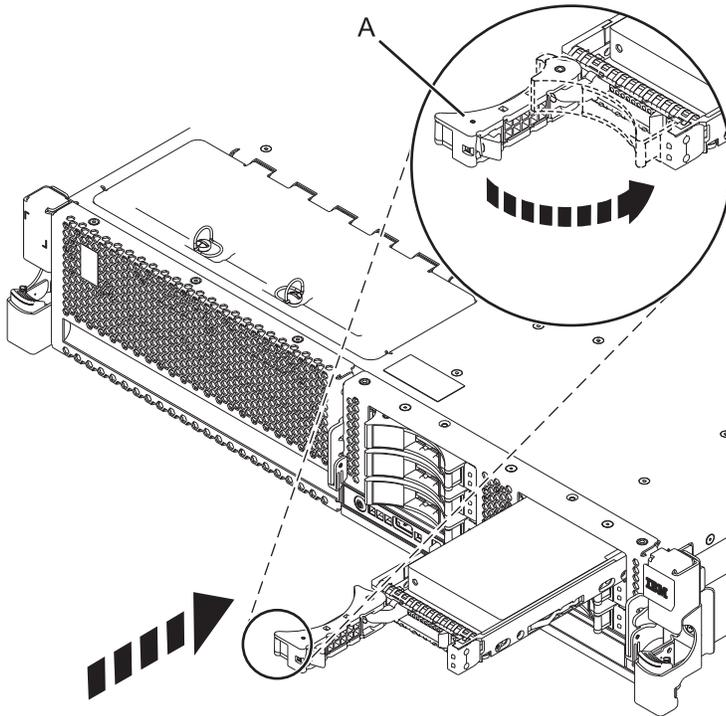

Figure 34. Installing a disk drive in the 8231-E2B, 8231-E1C, or 8231-E2C
11. When the service indicator starts flashing, slide the disk drive all the way into the system or expansion unit, and push the disk drive handle (A) in until it locks, as shown in Figure 34.